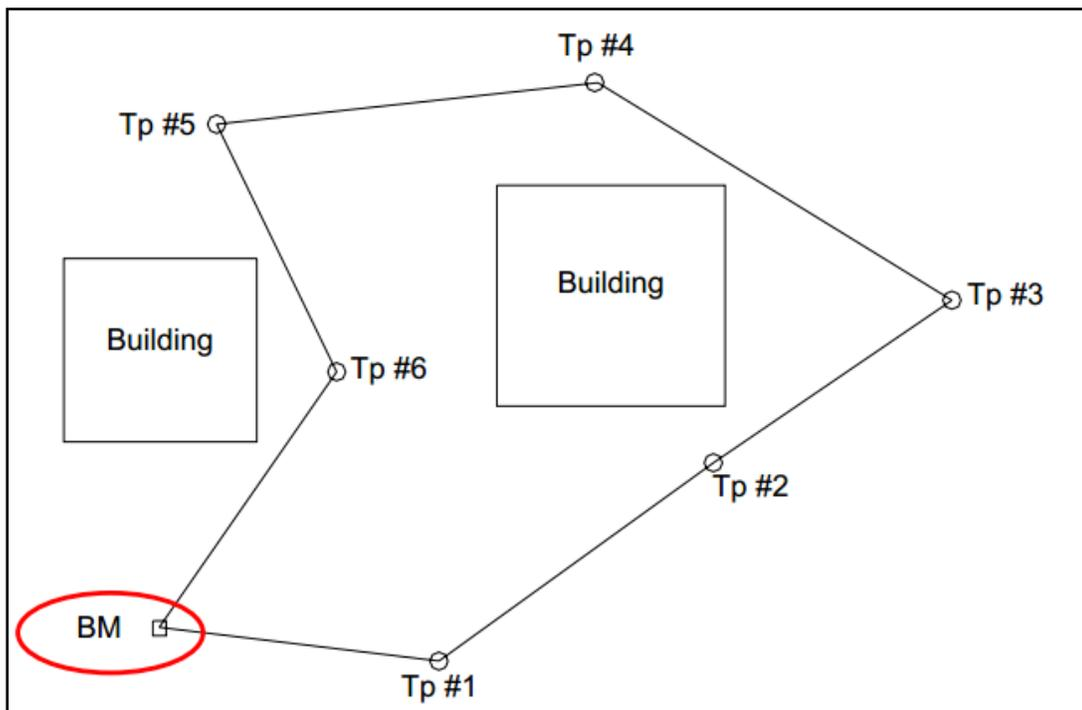

Figure 1: Closed loop leveling
1. The survey begins at the specified benchmark (BM) and finishes at the same benchmark (See Figure 1). (follow the same procedure for leveling, booking and calculation as explained before).